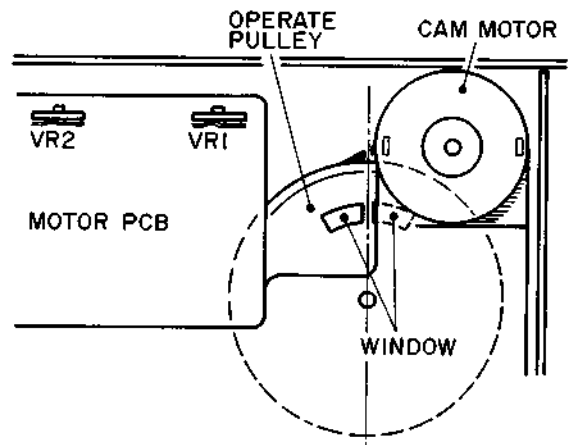

Fig. 2-12 Position of Operate Pulley in STOP Mode
- b. Adjust VR1 slightly so that a center line between windows of the operate pulley will face directly above during STOP Mode. (Fig. 2-12)